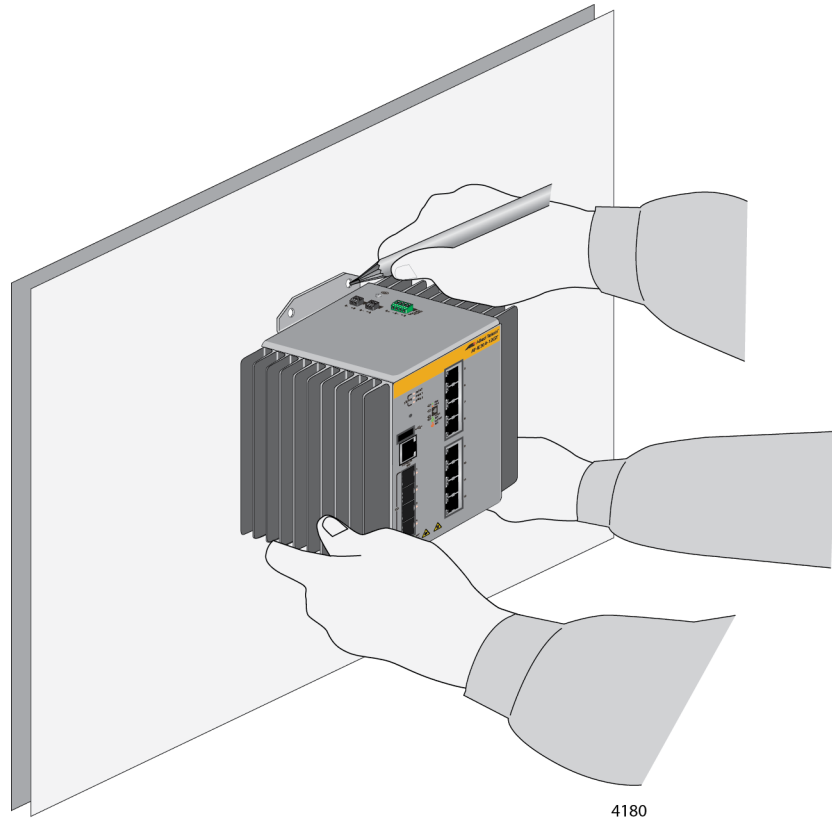

Figure 23. Marking the Locations of the Bracket Holes on a Concrete Wall
3. Have a person hold the switch on the concrete wall at the selected location for the device while you use a pencil or pen to mark the wall with the locations of the four screw holes in the two wall brackets. Refer to Figure 23 on page 72.
- The switch must be oriented as shown in Figure 23 on page 72. You may not install the switch horizontally or upside-down.